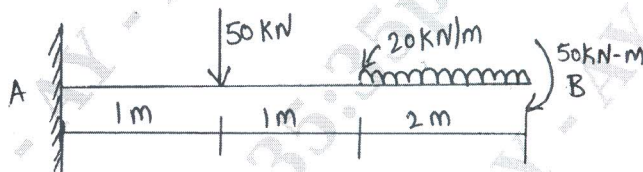

Fig.Q.6(b)
- b. Draw SFD and BMD for the beam shown in Fig.Q.6(b). (12 Marks)